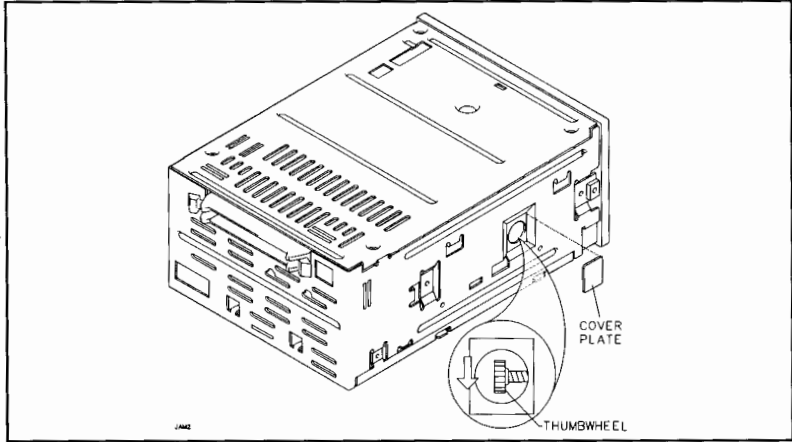

Figure 5-12. Manually Ejecting a DAT Tape
- b. Remove the plastic plate covering the thumbwheel on the side of the DAT drive. See Figure 5-12. The cover plate is attached to the DAT drive chassis with adhesive.